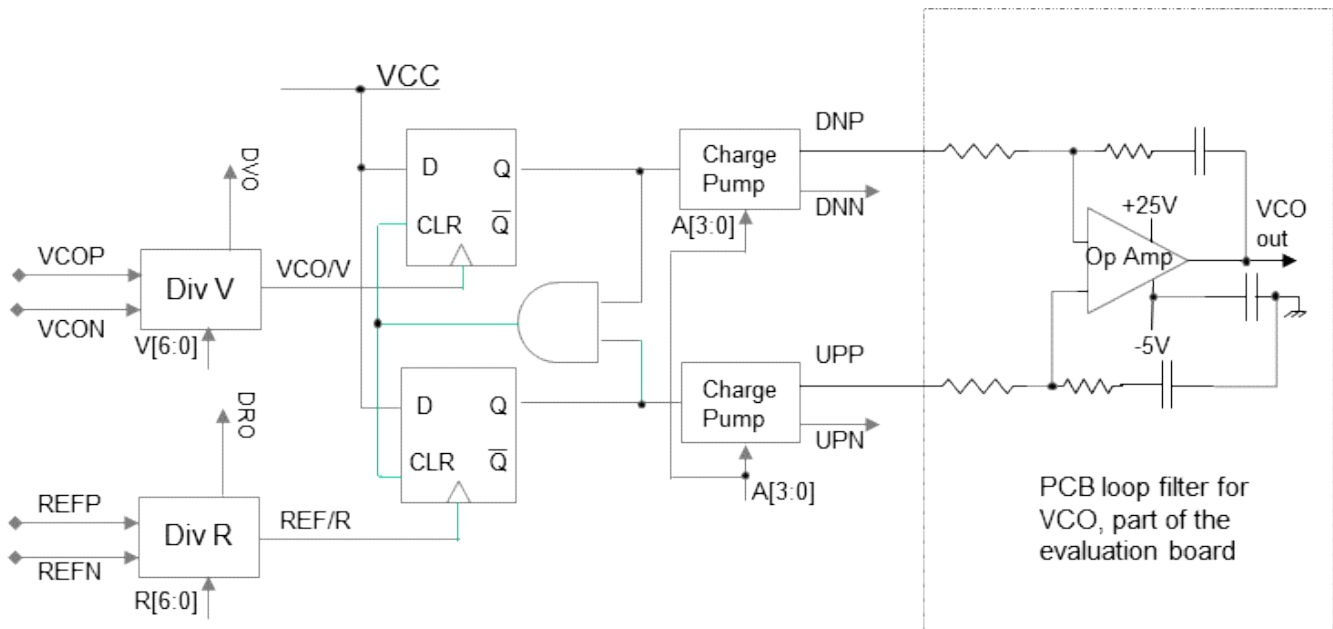
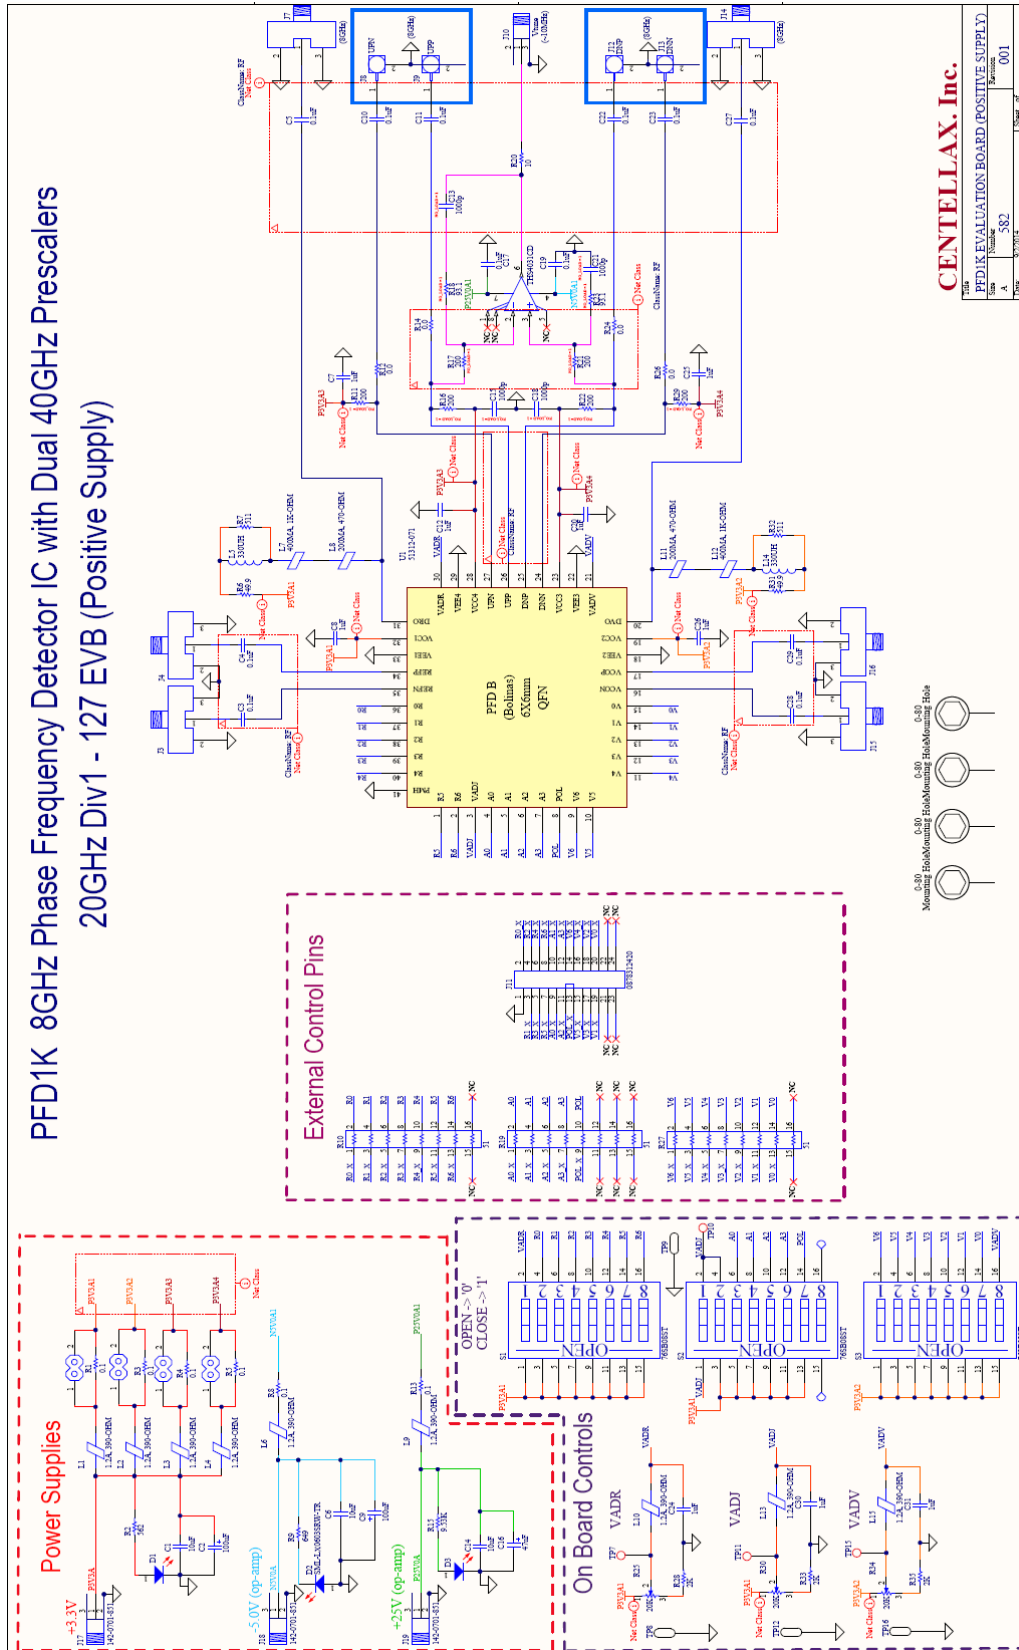

Figure 4. Block diagram for PFD1KE evaluation PC board including loop filter and VCO op-amp
Figure 5. Schematic for the PFD1KE evaluation PC board
2. The evaluation board has an OP AMP to drive a Varactor VCO oscillator with a 0V to 20V tuning voltage (see Figure 4). Make sure that the proper NO-LOAD resistors are installed to enable the OP AMP circuitry (refer to the schematic in Figure 5) and make sure that a -5V_{VEE} and +25V_{VCC} supply are connected. The -5V and +25V supplies are not needed if the OP AMP integrator circuitry is not needed.
3. Figure 4 shows a block diagram of the PFD1K phase frequency detector and the VCO error voltage integrator circuit (if loaded) that is part of the evaluation board.
4. A schematic of the evaluation board is included on the next page (figure 5).